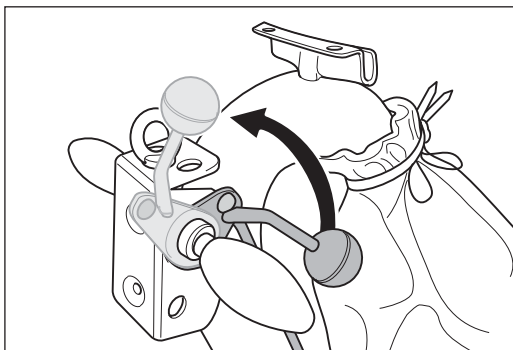

Fig. 34 Lift the sanding drum off the floor by turning the lowering lever at the handle upwards.
- 1 Lift the sanding drum off the floor by turning the lowering lever at the handle upwards (fig. 34).
- **Always lift the sanding drum off the floor before switch on the machine (fig. 34)!**